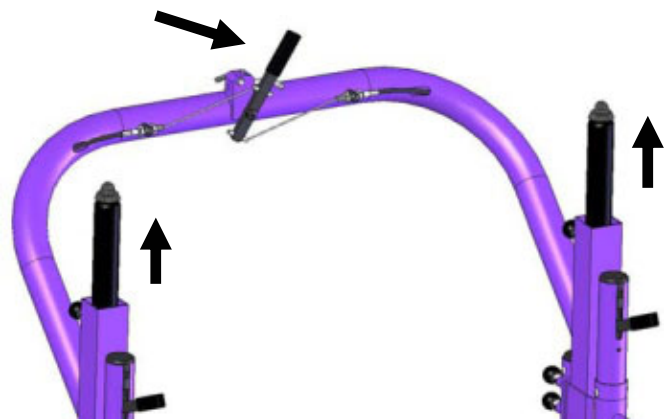

Figure 9
***Caution**, the gas springs will extend upward out of the opening of the square tubes (Figure 9), and can do so with much force and speed. Keep clear of the opening of the square tubes while actuating the gas spring release handle.